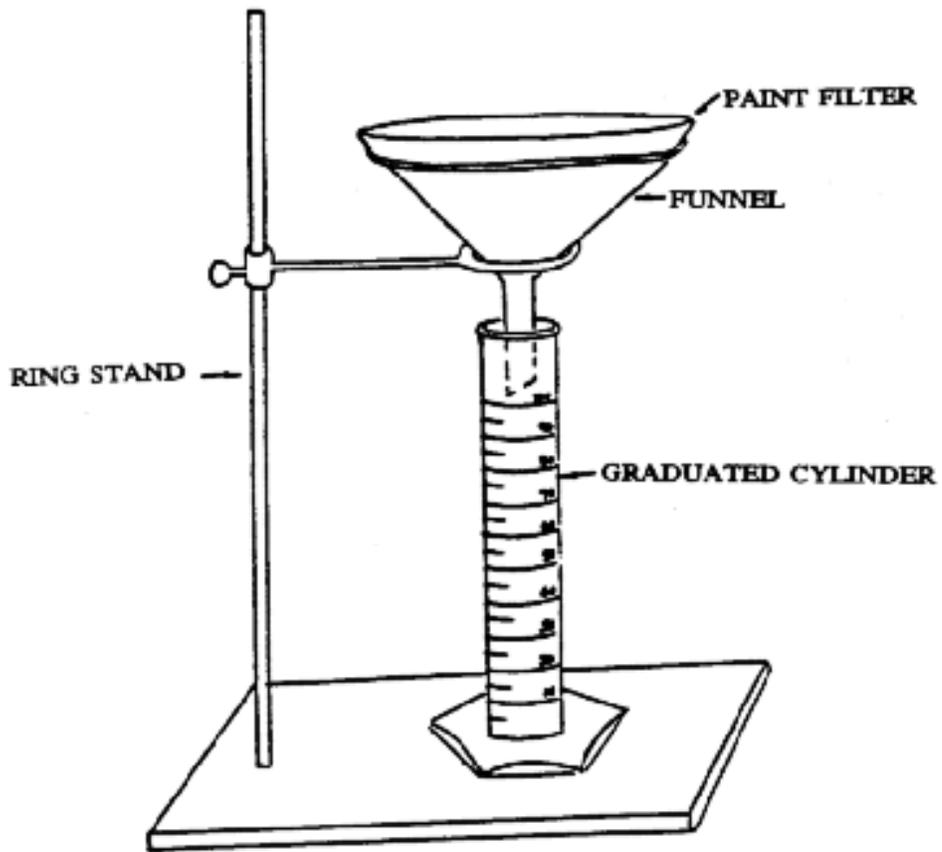

Figure 1. Paint filter test apparatus.
7.1 Assemble test apparatus as shown in Figure 1.